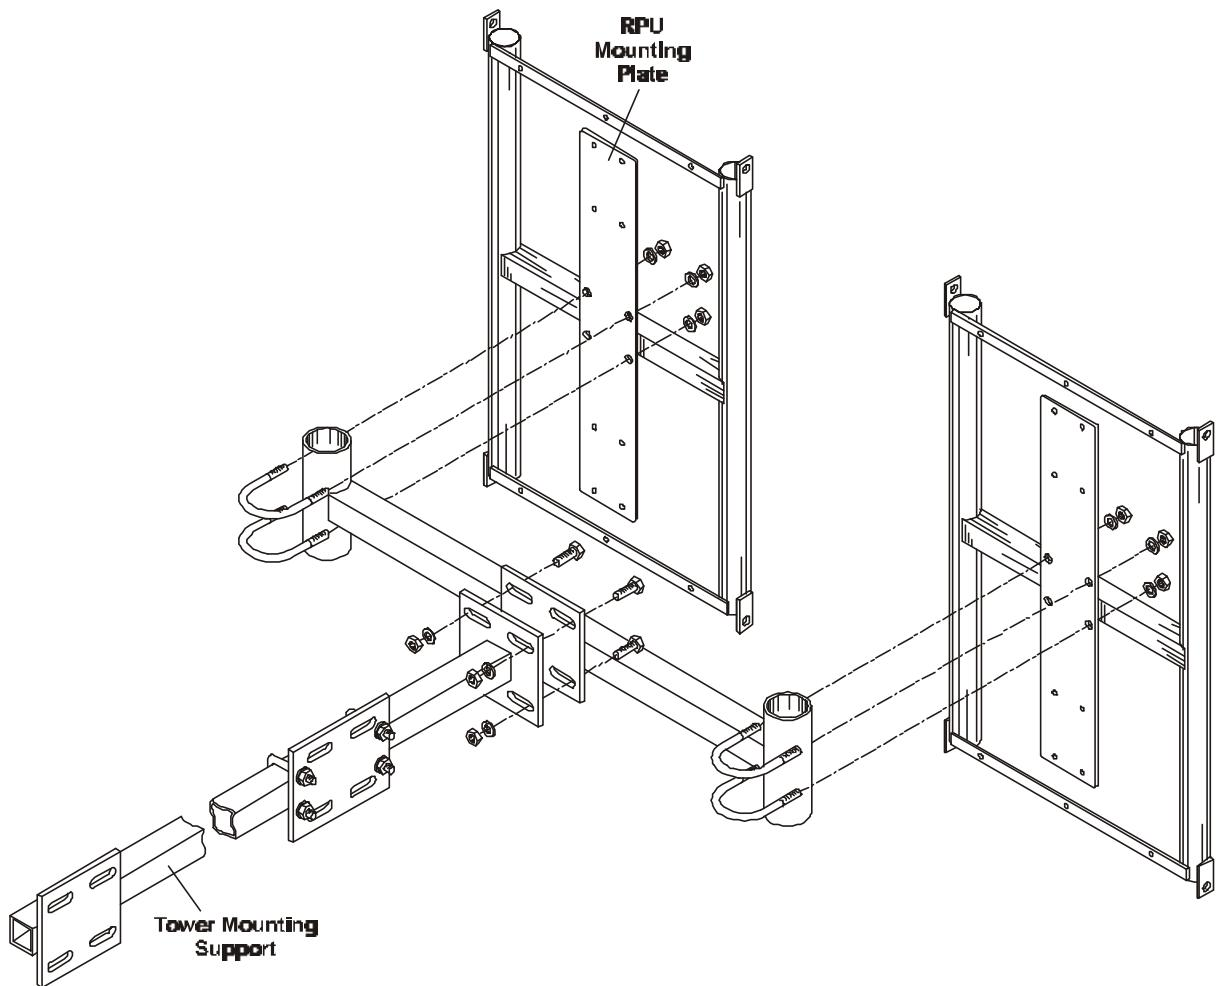
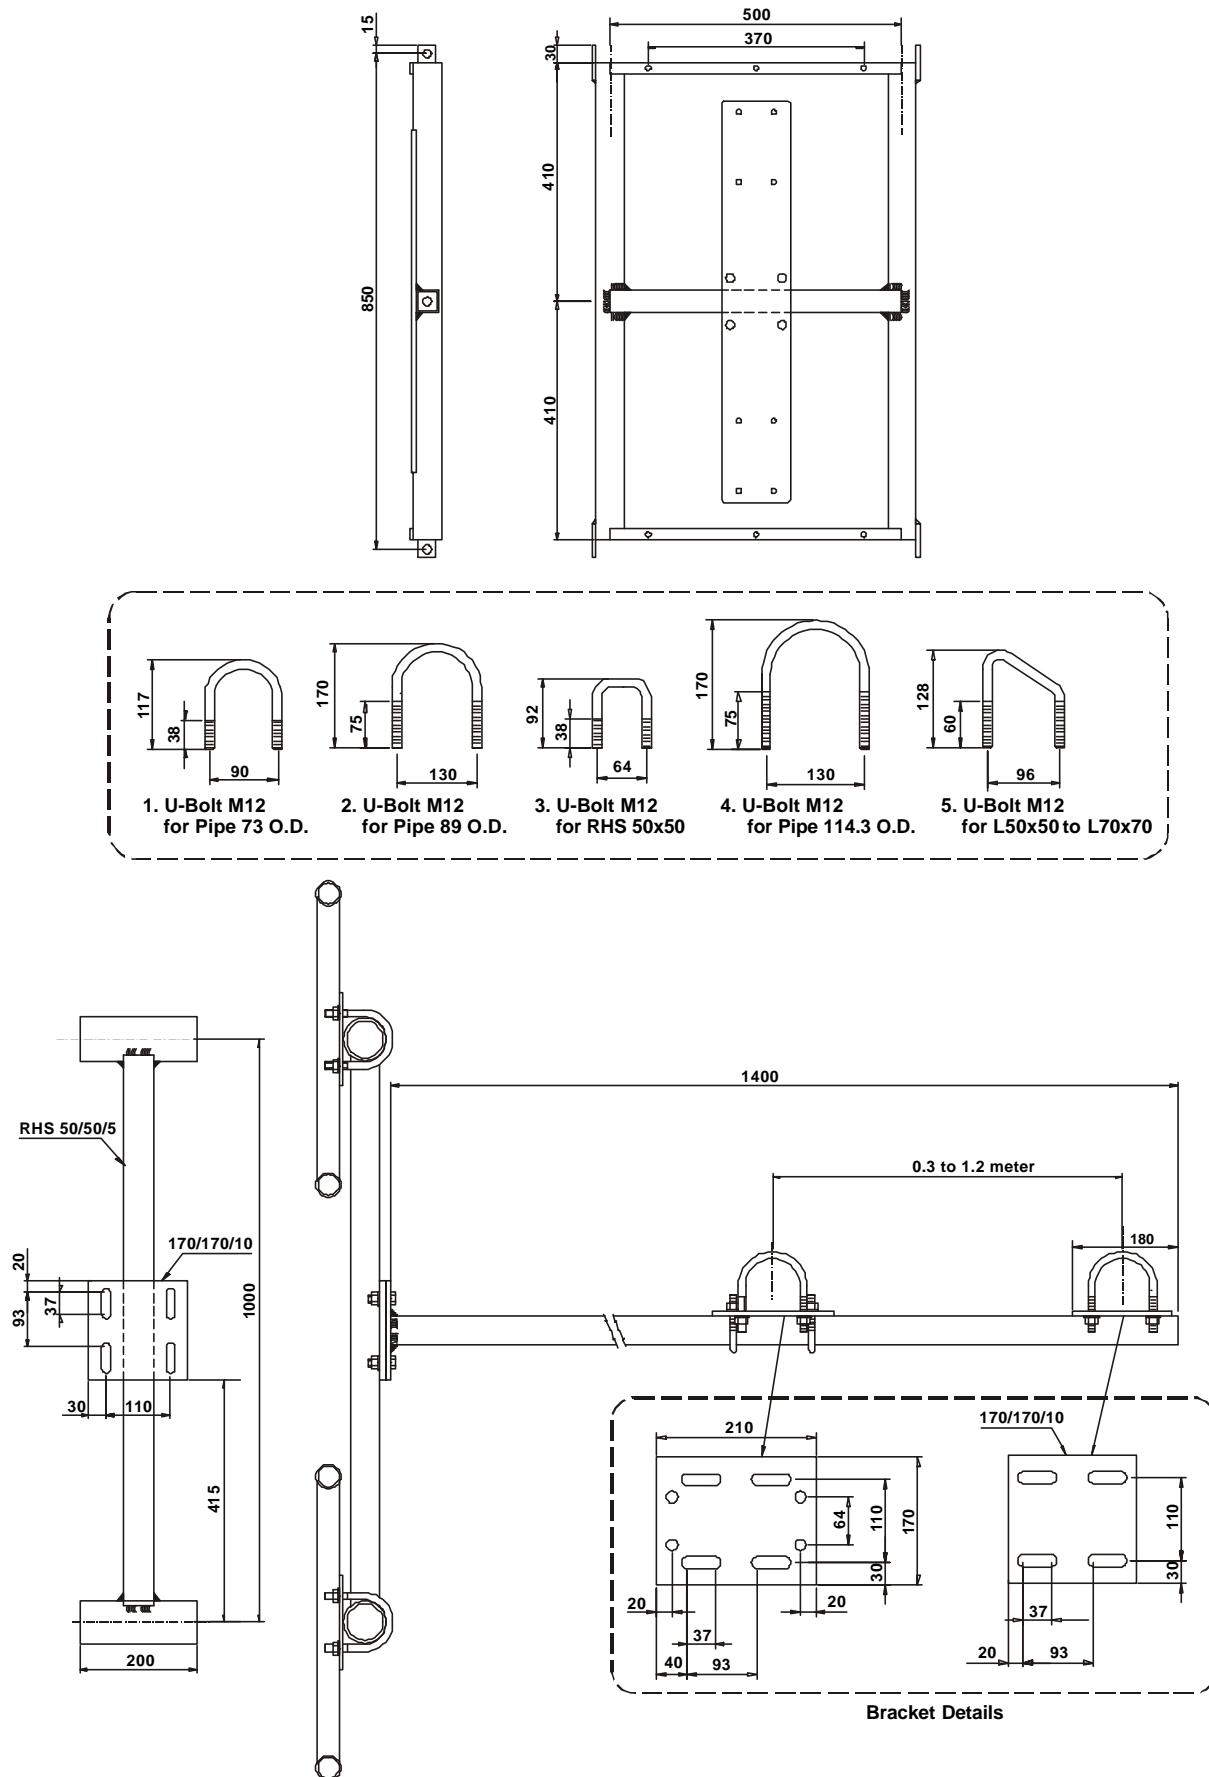
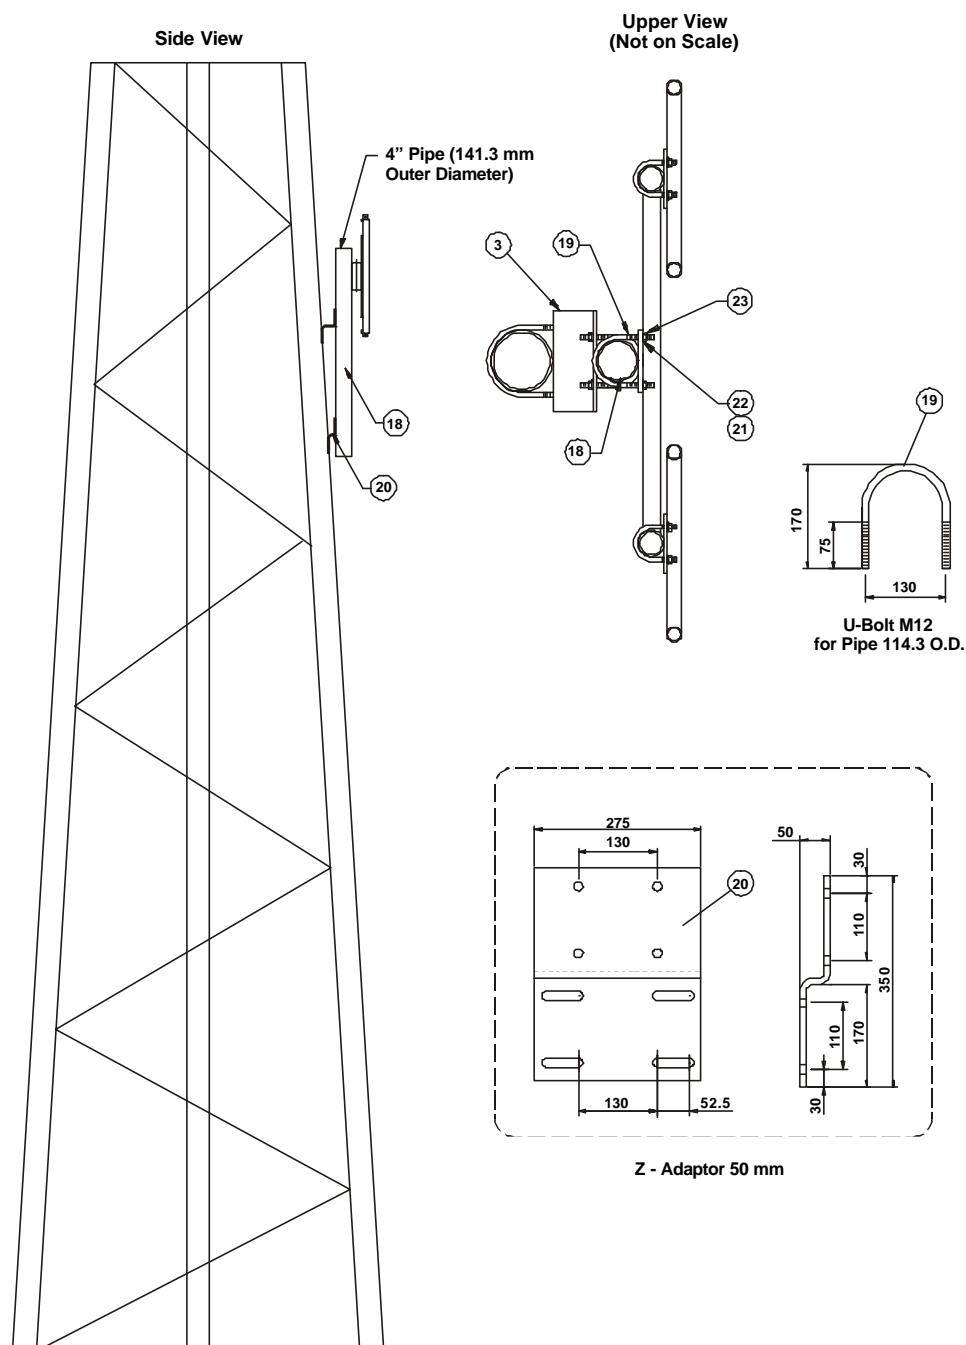

Figure 3-8. Narrow H-Supports and Accessories for Tower Mounting, Option 1, General View
Figure 3-9. Narrow H-Supports and Accessories for Tower Mounting, Option 1, Mechanical Details
Figure 3-12. Additional Mounting Kit for Pyramidal Towers
The applicable mounting accessories are shown in Figure 3-8 and Figure 3-9.
Figure 3-8 through Figure 3-12 show typical narrow H-supports and various mounting accessories recommended for tower mounting.
One. Tower Mounting Option 1. The tower mounting support used for this option is shown in Figure 3-8 and Figure 3-9. This option can be used for mounting two narrow H-supports on straight towers with side sections in the range of 300 to 1200 mm.
Table 3-1 lists the accessories and the materials needed for option 1. The item numbers in table identify items in Figure 3-9.
Three. Attach the fastener (2) to the RPU (1) by means of screws (3) spring washers (4), flat washers (5) and nuts (6) as shown in Figure 3-8. Note that two flat washers are used around the lower screw.